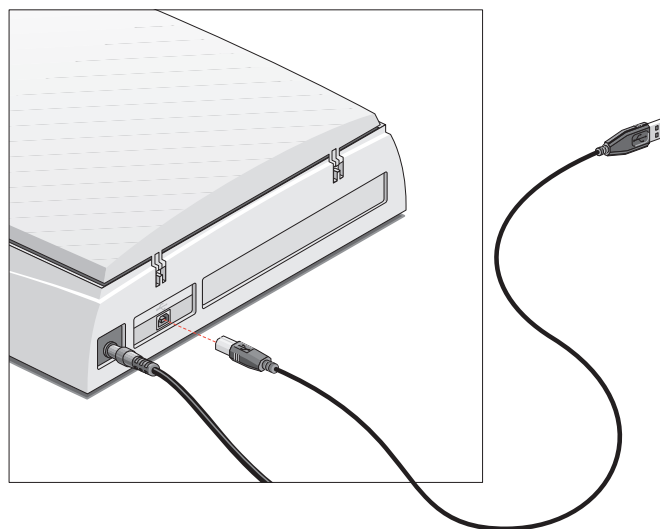

Figure 2
- 3. Connect one end of your USB cable to the USB port on your scanner. Make sure you connect the correct plug as shown in Figure 2.